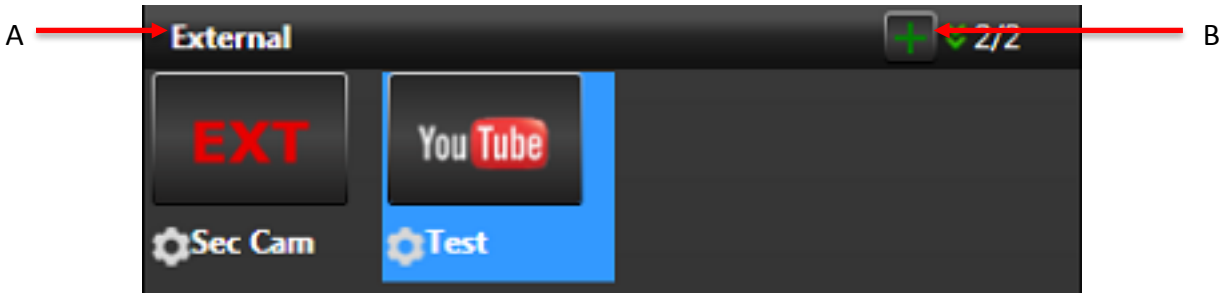

Figure 20
On the left side of the receiver interface, there is a section for external sources such as YouTube (A)(Figure 20). In order to add an external source to the receiver GUI, click the "+" on the section header (B).